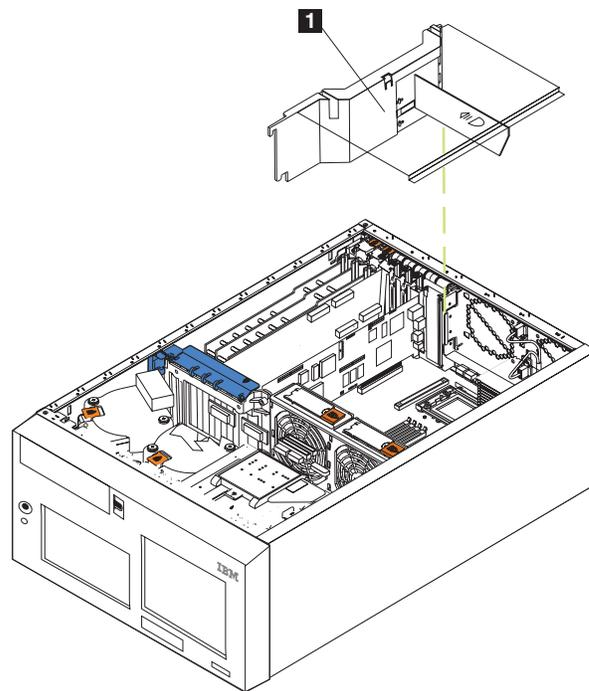

Figure 28. Removing the air-baffle assembly
3. See Figure 28 and slide the air-baffle assembly out of the guides; then, remove it from the engine.